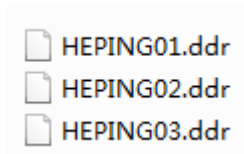

Fig. 2
1.Put the ishow ddr format document in “ddrfiles” folder. (Caution: The name limited 8 character). For example fig.2.